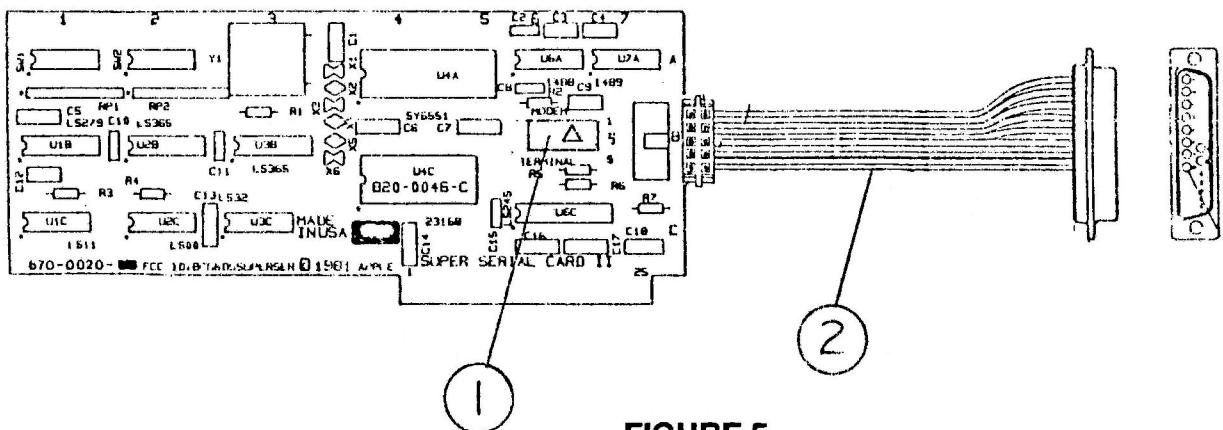

FIGURE 5
- IPL.7 Super Serial Card (Figure 5)
SUPER SERIAL CARD (Figure 5)